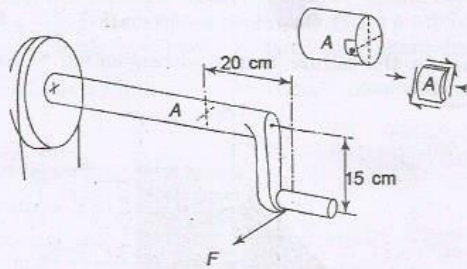

Figure 3
- (b) Derive and obtain an expression for the bent configuration of a beam-column of length L and flexural rigidity EI , when the beam-column is subject to axial compression P and a uniformly distributed transverse load q_0 . State the assumptions used. Next, obtain an expression for the maximum stress in the given beam-column. (13)
14. (a) A force $F = 45,000$ N is necessary to rotate the shaft shown in Figure 3 at uniform speed. The crank shaft is made of ductile steel whose elastic limit is $207,000$ kPa both in tension and compression. With $E = 207 \times 10^6$ kPa and Poisson ratio $\nu = 0.25$, determine the diameter of the shaft using (i) the octahedral shear stress failure theory and (ii) the maximum shear stress failure theory. Use a factor of safety $n = 2$. Consider a point on the periphery at section A for analysis. (13)